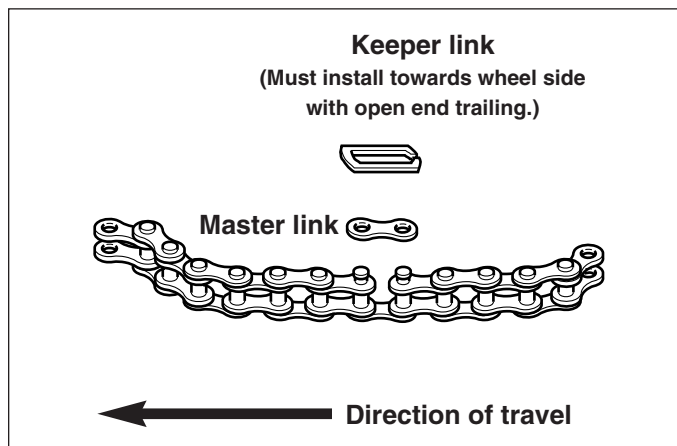

Figure 30. Roller Chain Master Link
6. Install new chain and master link as shown in Figure 30.